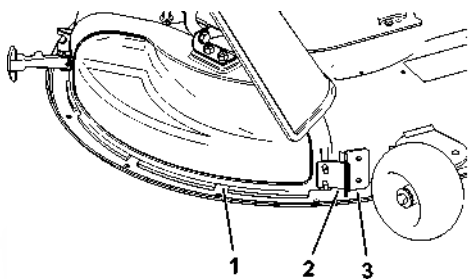

**Figure 11**
3. Release the flexible latch from the latch retainer on the discharge cover and pivot the discharge cover to the right (Figure 11).
6. Secure the discharge cover to the deck by hooking the flexible latch on the discharge cover into the retainer on the deck (Figure 11).